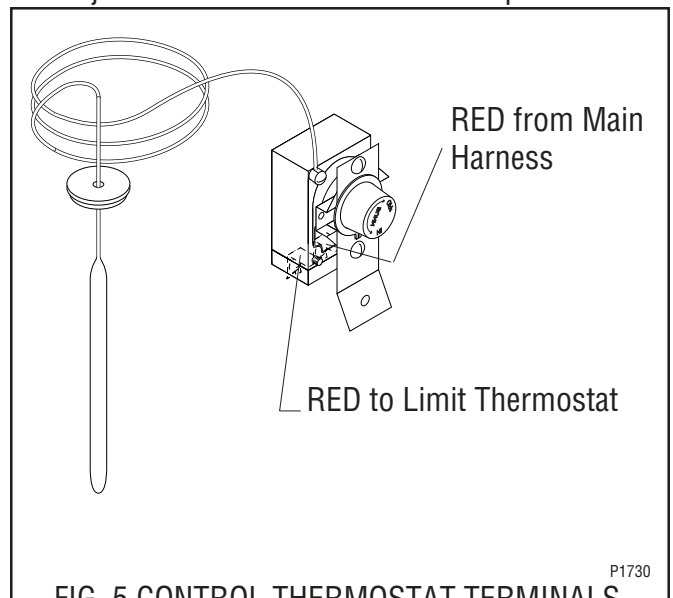

FIG. 5 CONTROL THERMOSTAT TERMINALS
10. Refer to Fig. 5 and reconnect the wires.